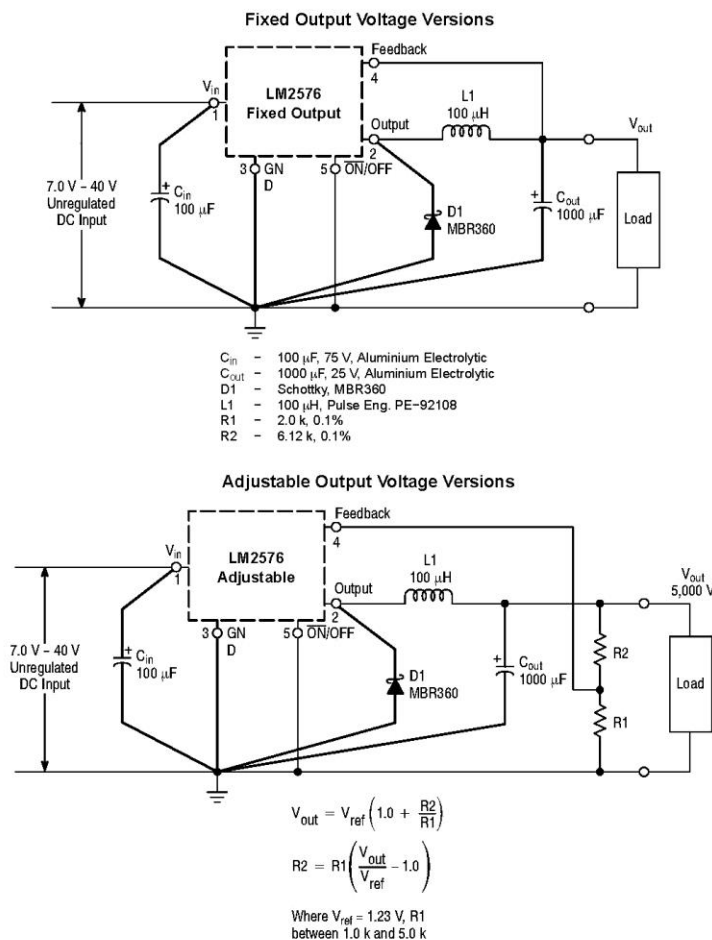

Figure 15. Typical Test Circuit
LM2576-3.3 (Note 1 Test Circuit Figure 15)
LM2576-5 (Note 1 Test Circuit Figure 15)
LM2576-12 (Note 1 Test Circuit Figure 15)
LM2576-15 (Note 1 Test Circuit Figure 15)
LM2576 ADJUSTABLE VERSION (Note 1 Test Circuit Figure 15)
- External components such as the catch diode, inductor, input and output capacitors can affect switching regulator system performance. When the LM2576 is used as shown in the Figure 15 test circuit, system performance will be as shown in system parameters section.
TYPICAL PERFORMANCE CHARACTERISTICS (Circuit of Figure 15)
As in any switching regulator, the layout of the printed circuit board is very important. Rapidly switching currents associated with wiring inductance, stray capacitance and parasitic inductance of the printed circuit board traces can generate voltage transients which can generate electromagnetic interferences (EMI) and affect the desired operation. As indicated in the Figure 15, to minimize inductance and ground loops, the length of the leads indicated by heavy lines should be kept as short as possible.